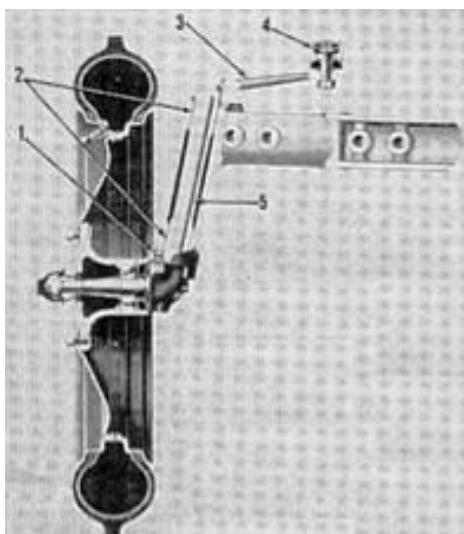

Fig. F03 - Front axle hub
2. To rebush axle spindles, first block up tractor front end and remove steering arms. Slide spindles with wheels attached, out of axle ends. Drive old bushings out of axle and install new bushings, using a piloted installing tool. New steel bushings are presized and are not reamed. Check and adjust wheel alignment, after reinstallation of axle parts removed. See Fig. F03.